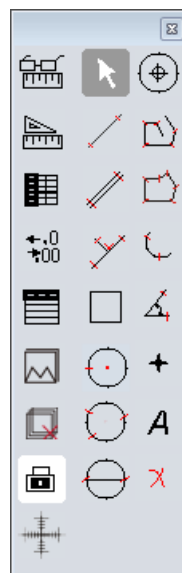

Fig.4-5. Measurement
- (3) Click on **Measure** tab to get measurement functions (Fig.4-5).
- (4) It is allowed to apply measurements to the live and still images. To get more details about measurement, please read the HD2 Advanced Imaging & Measurement software manual.